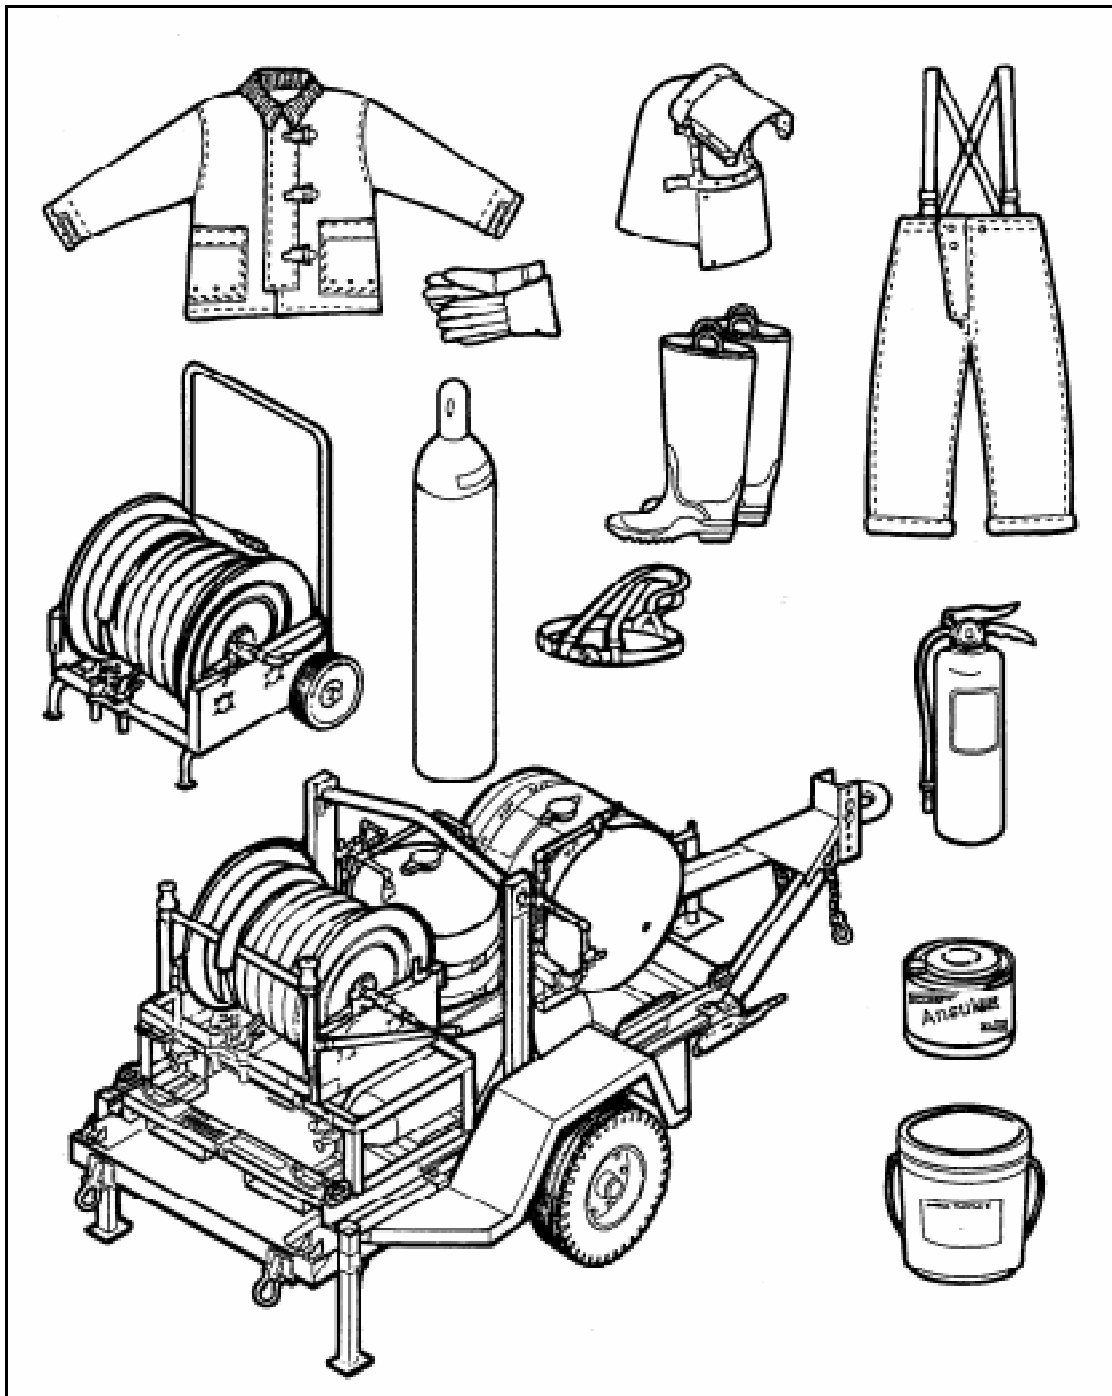

Figure 9-1. Fire-suppression equipment set
**9-8.** The basic load in a TPT will be 18 fire-suppression equipment sets. Table 9-1 lists the components of one set; Figure 9-1 shows one set. Each set must be inspected and placed in service, according to TM 10-4210-235-13, before a TPT can operate.